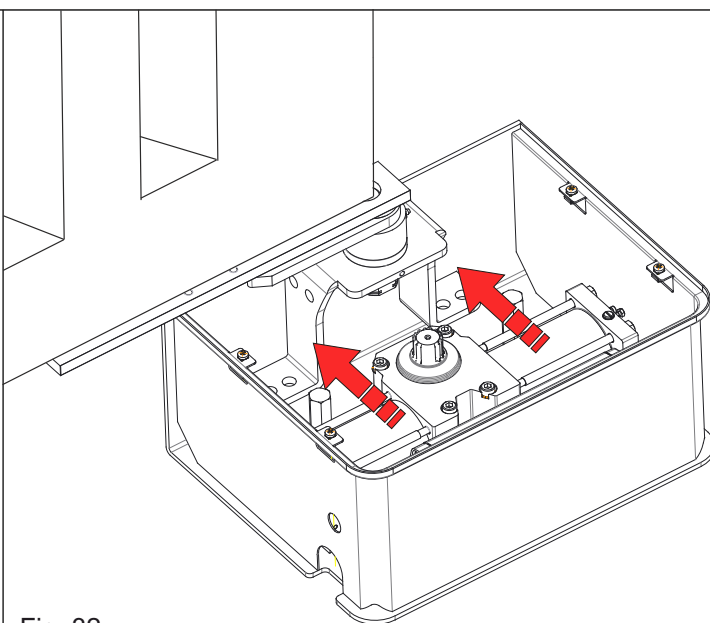

Fig. 32
- 8.2.** Once the operator has been placed into the box, move it forward (Fig. 32) until the splined shaft of the operator is in correspondence with the hole of the box shaft